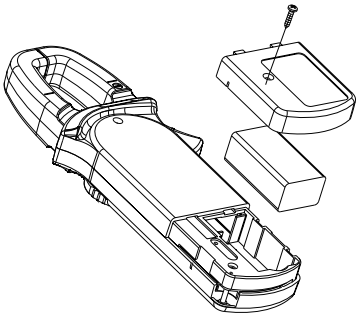

Figure 13
X. Maintenance (See Figure 13)